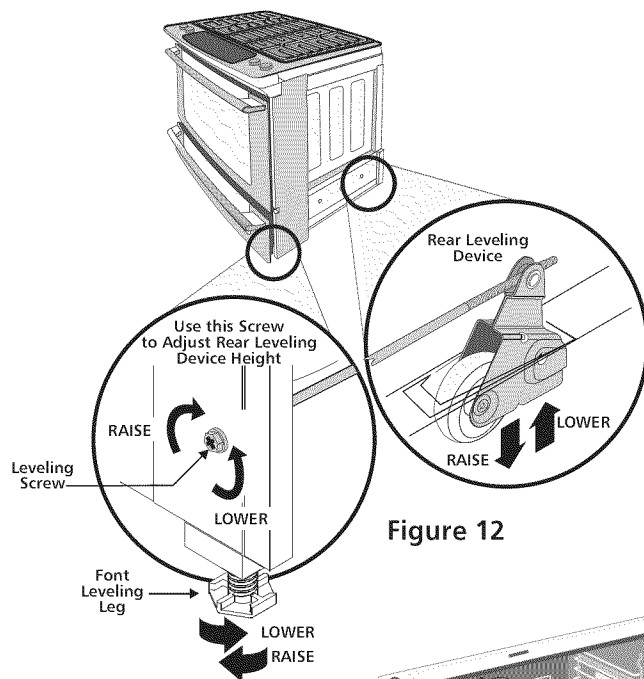

Figure 12
2. Adjust the appliance legs and wheels as follows until the underside of the cooktop surface is sitting level on the countertop (Figure 12).